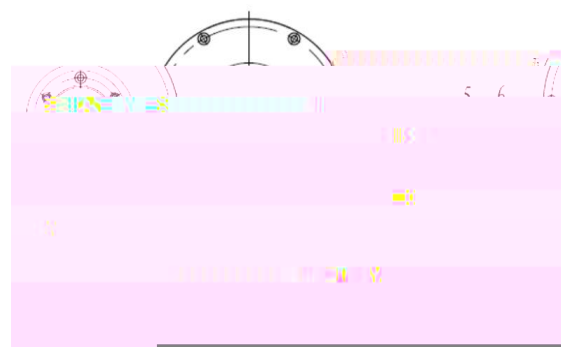

Fig. 1.2
Loosen item 1 four screws in fig. 1.2,remove the item 2 cover, remove the item 3 brake power line and micro switch line from the terminal, and remove the item 4 four bolts, the brake and item 5 base can be removed from brake mounting bracket remove the item 6 ,the brake can be removed from item 5 base.